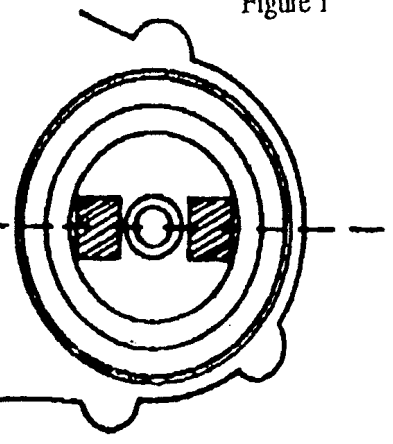

Figure 2
- 8) The magnet on one side of the rotor should now be in the centre of the top timing hole in the stator plate; this should also set it half way along its adjustment slots. If not, move the rotor until this is achieved without turning the engine from 31 deg. B.T.D.C. See Fig.2. (THE ATLAS ENGINE HAS THE POINTS HOUSING BEHIND THE CYLINDER HEAD, ITS SHAFT IS ROTATING IN THE REVERSE DIRECTION.SET TIMING ON THE CLOCKWISE TIMING HOLE.)